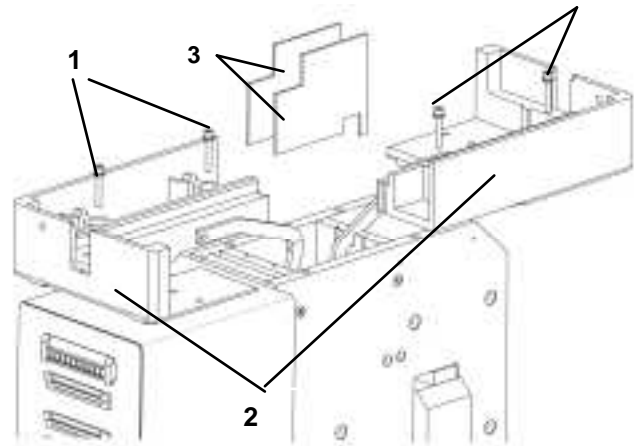

Fig. 48 Adapter and protective walls
- [Fig. 48]. To dismantle the arc chute adapter, loosen and pull out the four upright screws (1) using SW5 tool. Pay attention that no screws or washers fall inside the breaker!
- [Fig. 48]. Draw aside and lift off both parings of adapter (2). Then pull out two protective walls (3).
- [Fig. 48]. Pull out two protective walls (3).
- [Fig. 48]. Put in two protective walls (3).
- [Fig. 48]. Install two protective walls (3). Use new ones if necessary. Install two parings of adapter (2) and tighten screws (1); use 5 Nm [44 in-lbs].
- [Fig. 50]. Install front wall (6) and adjust it by positioning the protective wall (3) [Fig. 48]. Tighten it using torque of 10 Nm [88 in-lbs]
- [Fig. 48]. Put in two new protective walls (3).